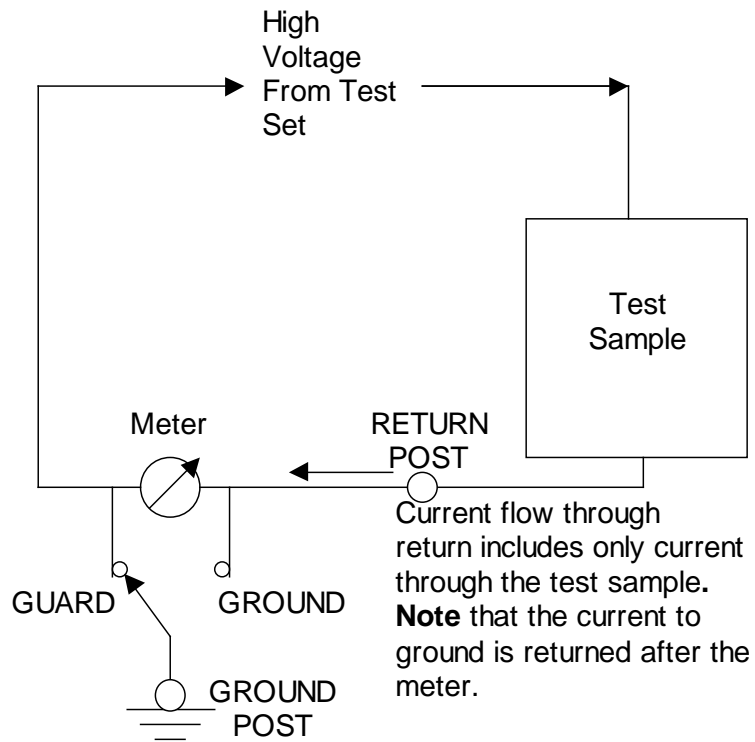

Figure 3, Guarded Return Diagram
2. **Guarded Return-** With the output return in the guarded mode, the current meter will only read currents through the test sample. The test sample must be isolated from ground on the low side as shown in **Figure 3** below.